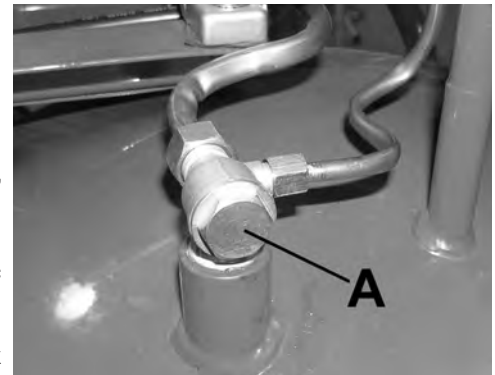

FIGURE 3
CHECK VALVE (A) FIG.3. When the air compressor is operating, the check valve is “open”, allowing compressed air to enter the air tank. When the air compressor reaches “Cut-Out” pressure, the check valve “closes”, allowing air pressure to remain inside the air tank.